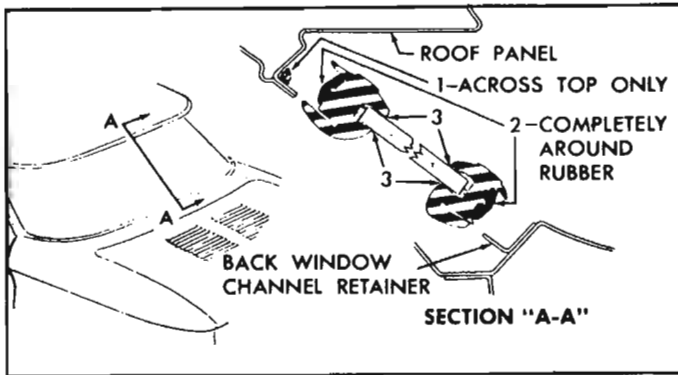

Fig. 10-81—Back Window Sealing
4. Apply a continuous bead (approximately $\frac{1}{8}$ " in diameter) of medium-bodied sealer to corner of back window rabbet across top of opening, as indicated at "1," Figure 10-81.
5. Apply a continuous ribbon (approximately $\frac{3}{16}$ " thick x $\frac{1}{2}$ " wide) of medium-bodied sealer to the base of the rubber channel, as indicated at "2," Figure 10-81, completely around rubber channel.
10. Using a pressure-type applicator, apply an approved weatherstrip adhesive (black) around entire perimeter of glass between rubber channel and glass on inside and outside of glass as indicated at "3," Figure 10-81.
1. To seal between glass and rubber channel—apply weatherstrip adhesive (black) with a pressure-type applicator between glass and rubber channel on both sides of glass, as indicated at "3," Figure 10-81, completely around glass.